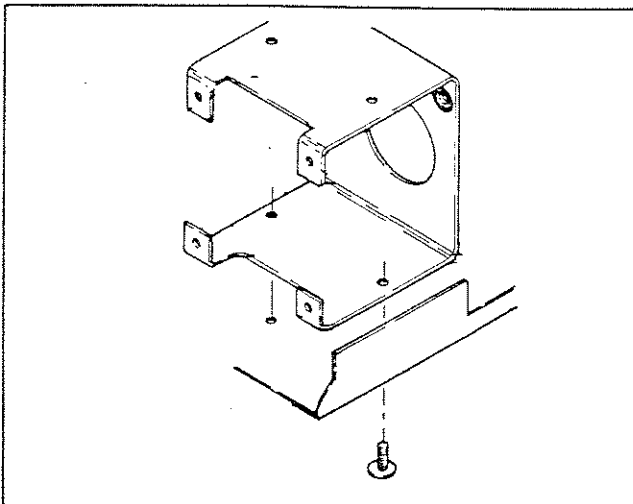

Figure 9. Solenoid Coil Bracket Removal
Remove two (2) screws that retain the bracket to the base. Then, remove the coil bracket. See Figure 9.